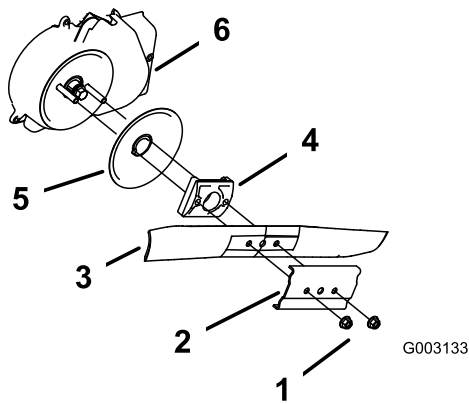

Figure 17
3. Remove the 2 blade nuts and the stiffener (Figure 17).
4. Remove the blade (Figure 17).
5. Remove the blade driver and disk (Figure 17).
6. Remove the blade stop system shield (Figure 17).
10. Install the blade and the stiffener that you previously removed (Figure 17).